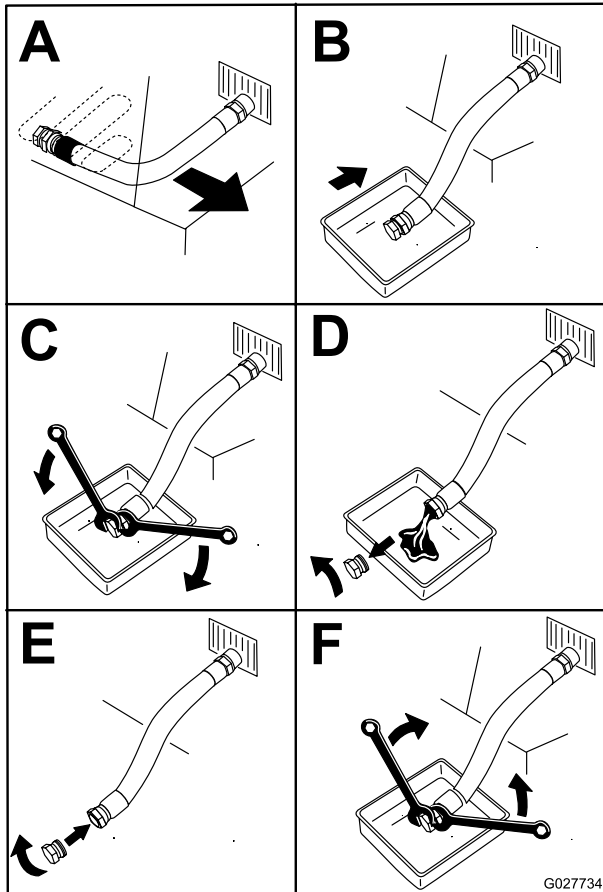

Figure 52
4. Shut off the engine, remove the key, and wait for all moving parts to stop before leaving the operating position (Figure 52).